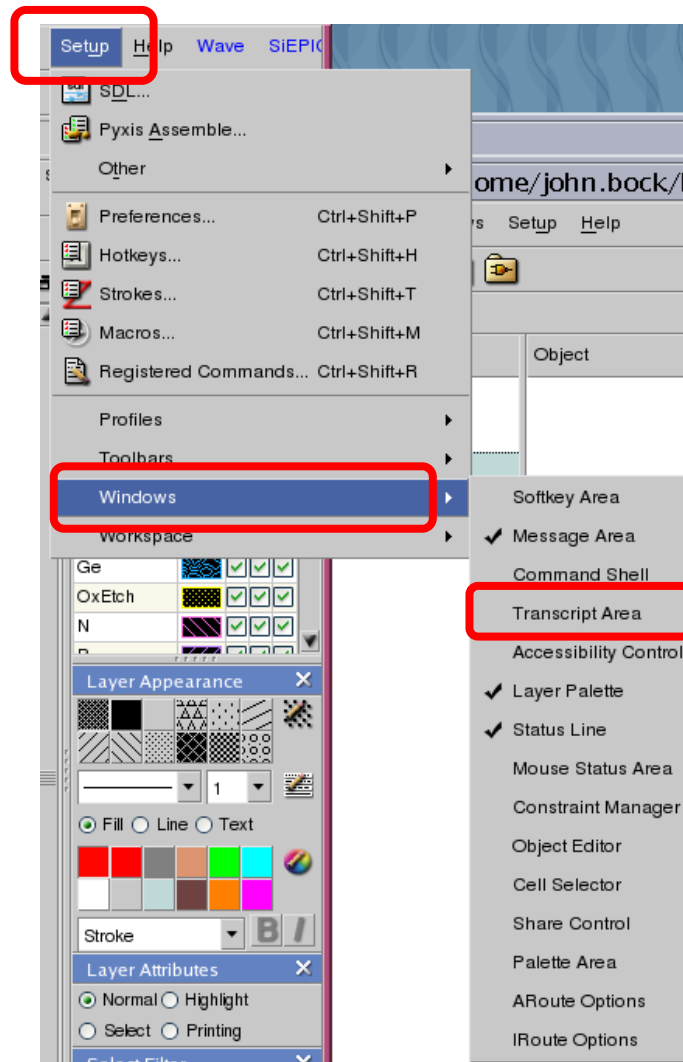

Figure 19: Selecting Transcript Area
1. To show the transcript area, on the main menu select **Setup | Windows | Transcript Area** (see Figure 19).